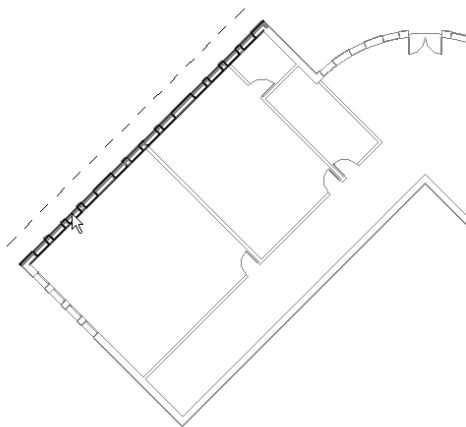

Figure 6-45 Sketching the roof profile
- e. Create the roof using the **Roof by Footprint** tool, refer to Figures 6-45 through 6-51.
6. Move the cursor near the northwest facing the exterior wall of Hall 1 and click when the dashed line appears on the outer side, as shown in Figure 6-45. The roof boundary line is sketched.